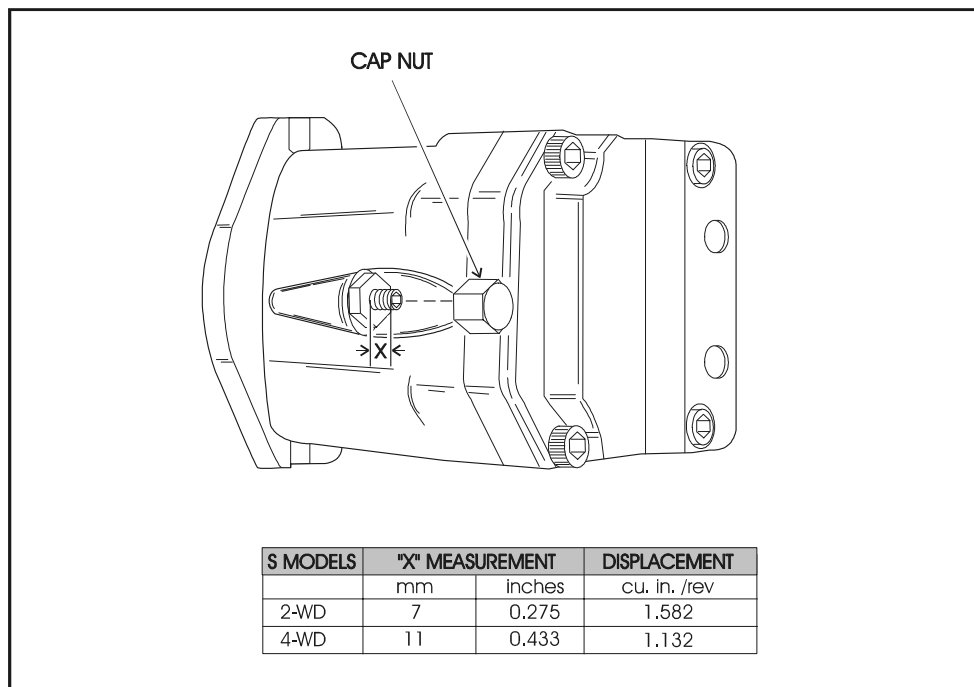

Figure 3-21. Drive Motor Adjustment (S Models Prior to S/N 75606)
3. Measure from top of jam nut to the end of adjustment screw. Refer to Figure 3-21., Drive Motor Adjustment (S Models Prior to S/N 75606).